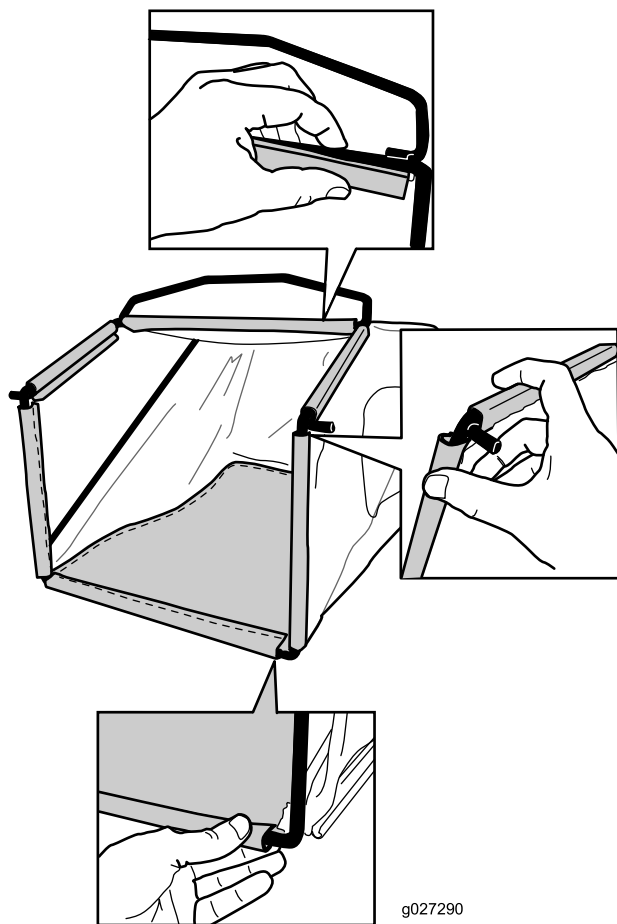

Figure 9
2. Hook the bottom channel of the bag onto the bottom of the frame (Figure 9).
3. Hook the top and side channels of the bag onto the top and sides of the frame, respectively (Figure 9).